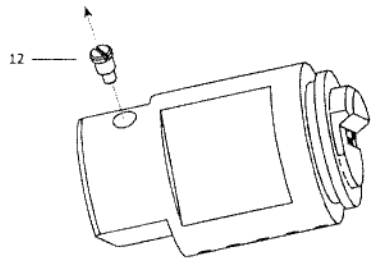

Fig 11.
⑨
Unscrew stopper screw (12) (Fig 11). Hold the plug pressed in as it may be pulled out. With operating key rotate cylinder plug 180° (plug pins opposite to body pins).